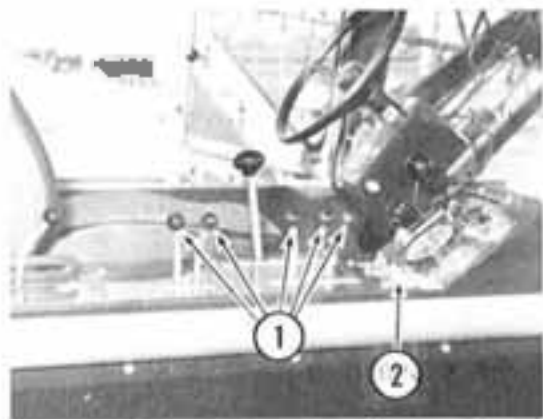

Figure 2
8. Adjust booms if necessary. See Item 1; Figure 2.
9. Place individual solution valve switches to the "on" position. See Item 2; Figure 2.